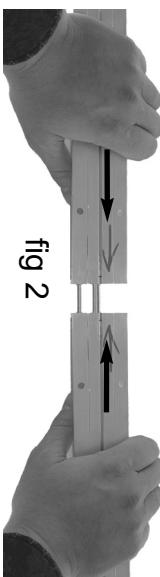

fig 2
Step 2: Push Rail together as much as possible. (Fig2)